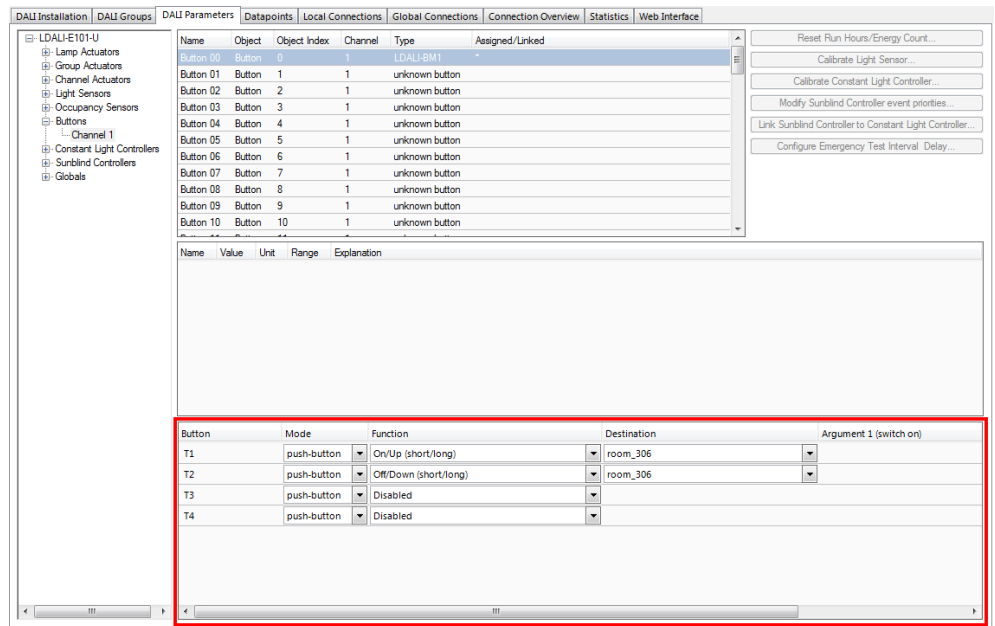

Figure 42: Parameterize DALI button functions.
- Stay on the **DALI Parameters** tab and select the button object to which you have assigned your DALI button as shown in Figure 42.